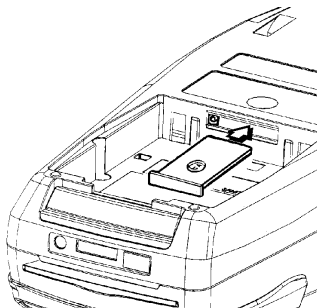

Figure 20 SIM Cardholder Insertion
7. Insert the SIM cardholder fully into the TEL SIM slot, as displayed in Figure 20 **SIM Cardholder Insertion**.